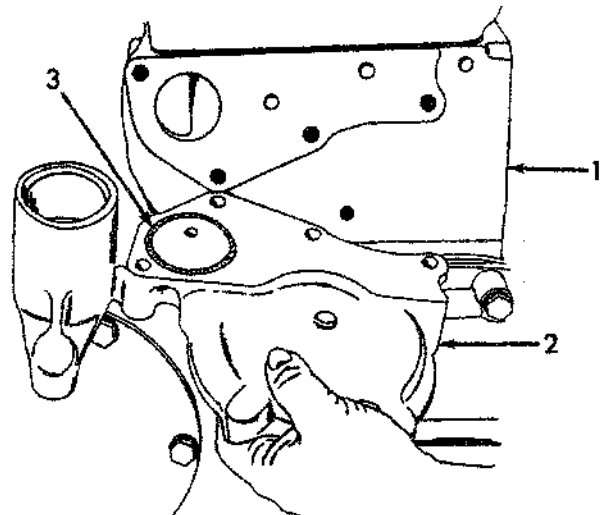

Fig. 10 -- Back Side of Volute (T-51314)
14. Remove capscrews and washers, Fig. 10 (5), attaching injection pump to back of front plate (3). Withdraw fuel injection pump from front plate (3) and timing gear housing cover (1).